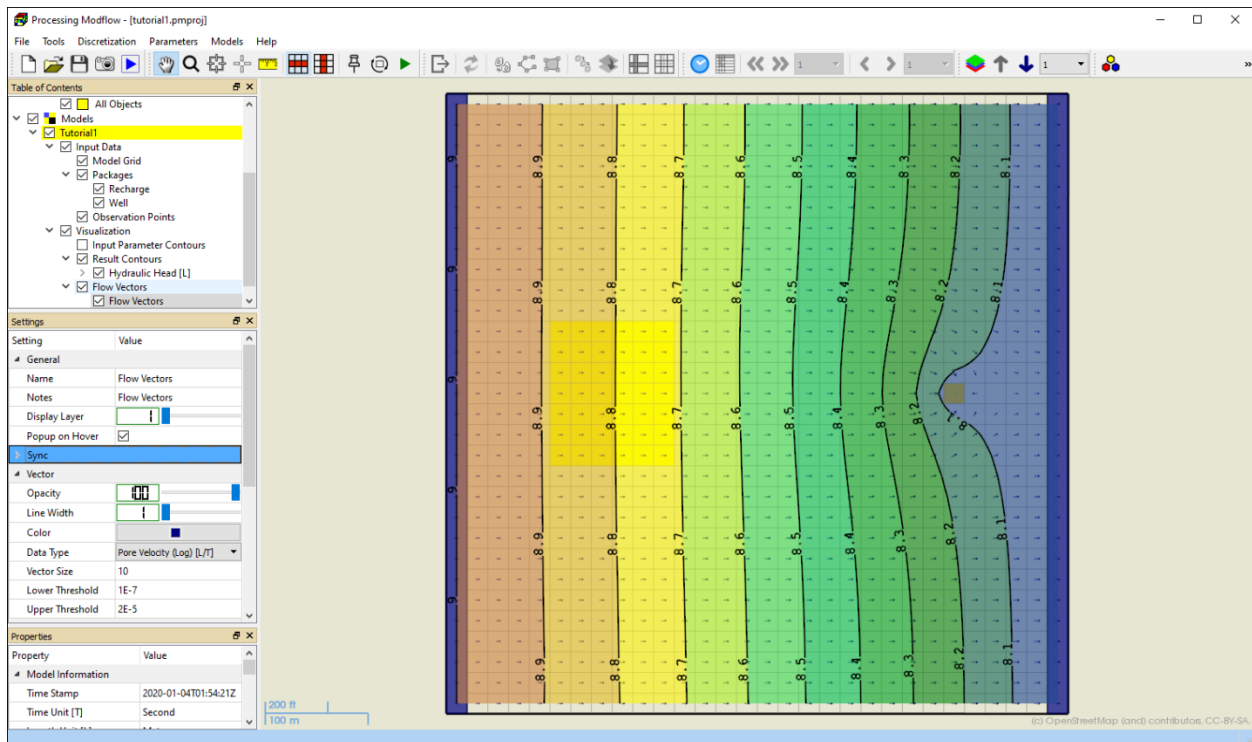

Figure 15. Flow Vectors and color-filled hydraulic head contours
1. Right-click on Visualization > Flow Vectors of the model item on the TOC and select Add from the popup menu. PM will add an item, called “Flow Vectors”, to the TOC, and will display the flow vectors on the Map Viewer. The flow vectors in Layer 1 should look like Figure 15.